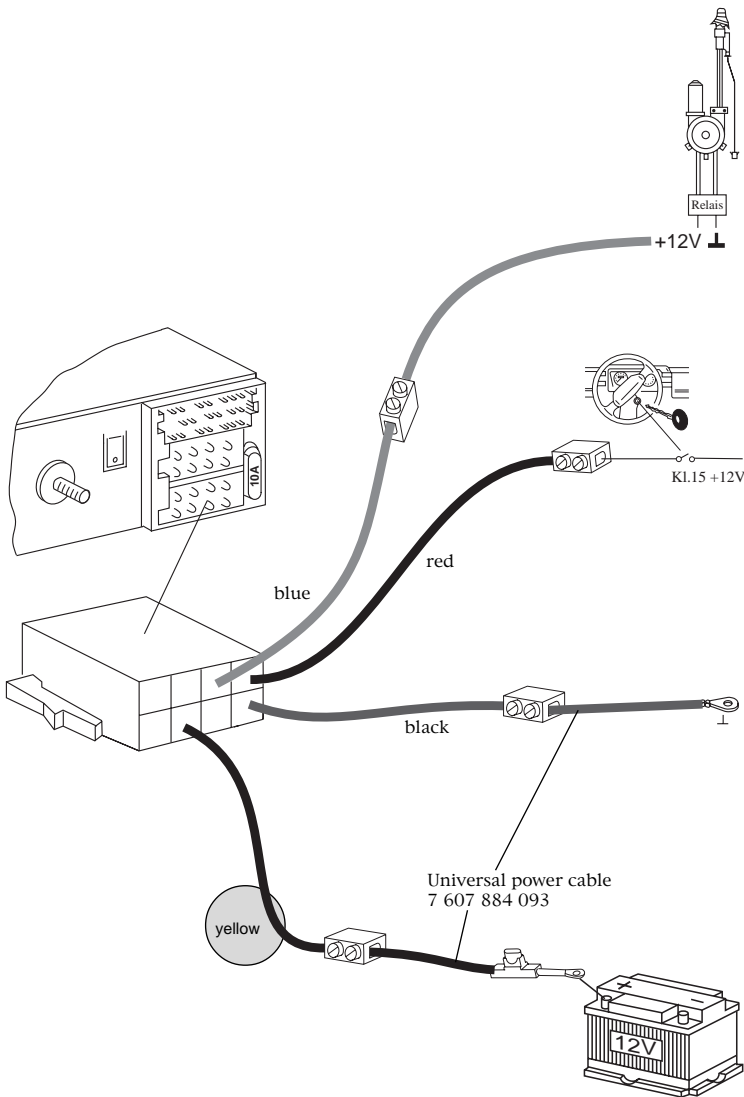

Fig. 4
- Vehicles without car radio prefitting Fig. 4